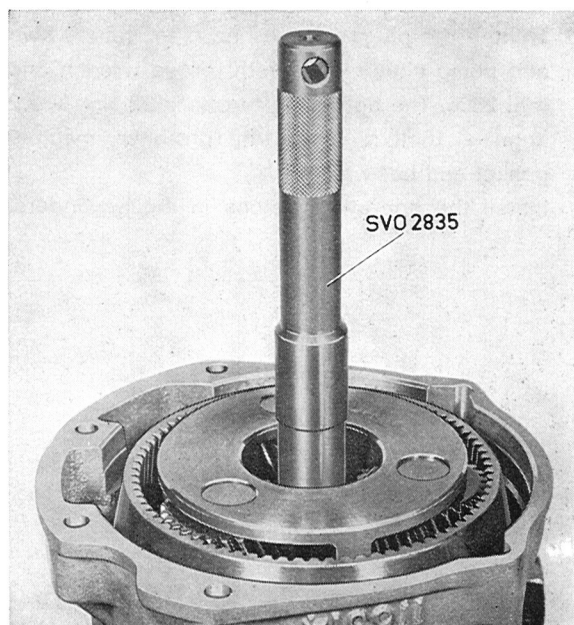

Fig. 4-64. Planet gear installation
8. Place the planet carrier complete with planet gear in position on the output shaft. Guide the splines into the planet carrier and one-way clutch with drift 2835, Fig. 4-64.